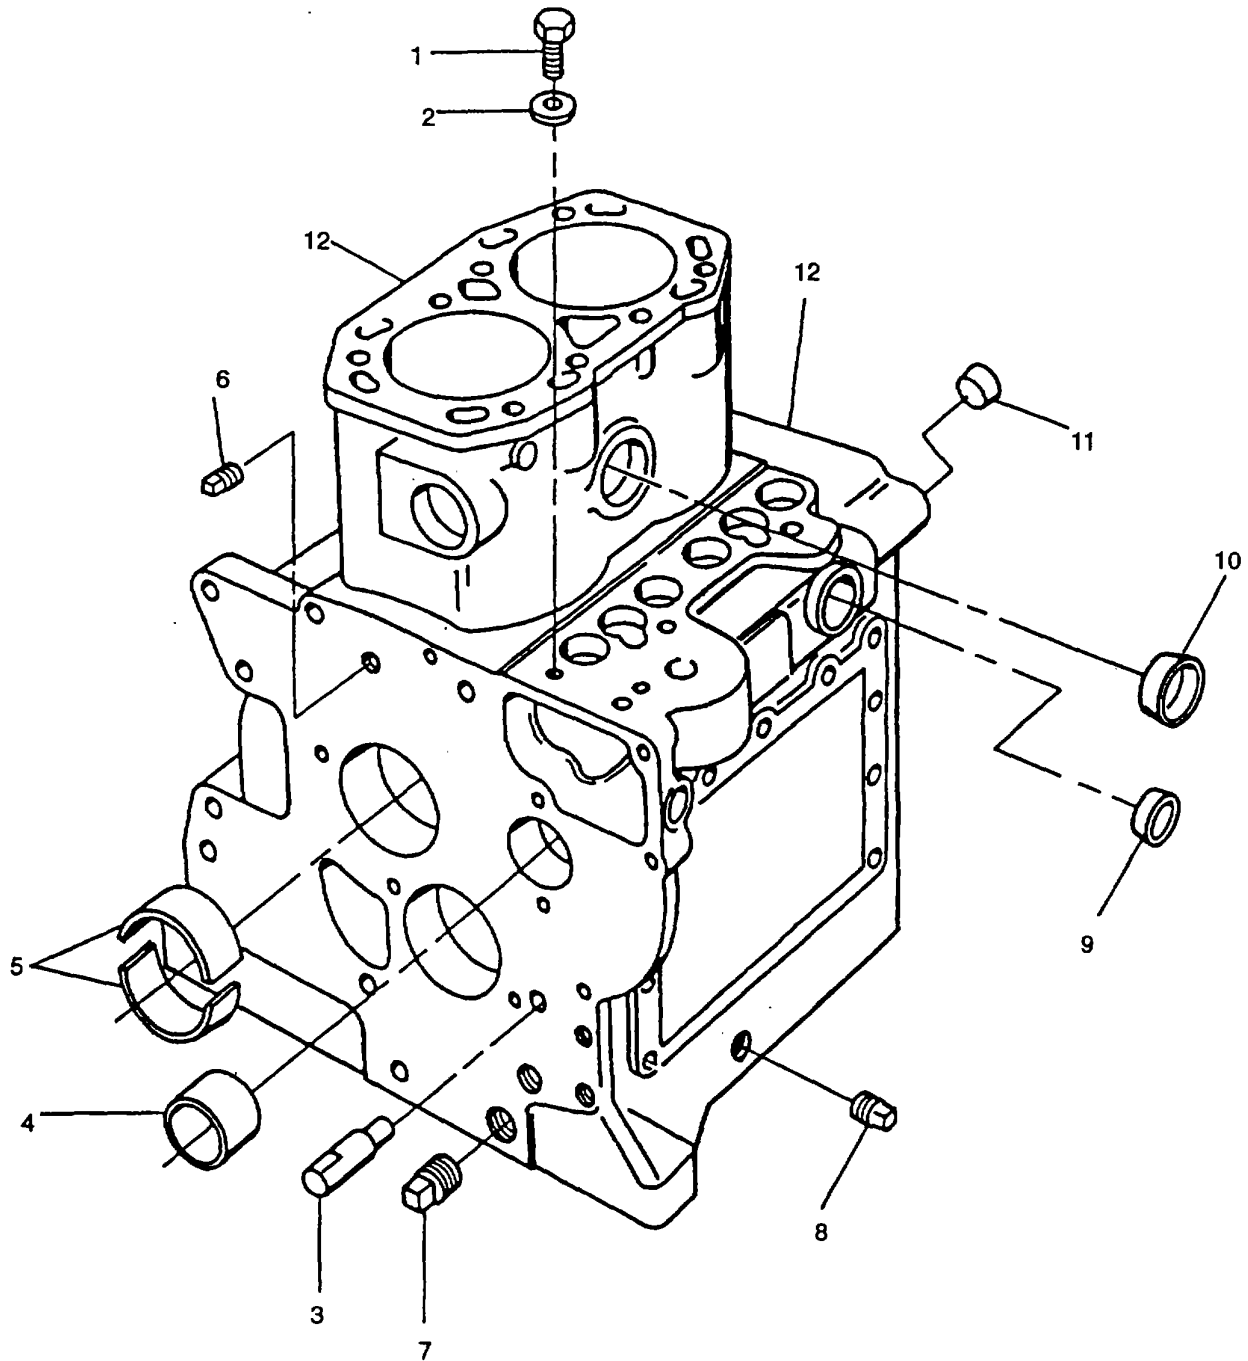

FIGURE 3-43. Crankcase Assembly
- a. If damaged, remove two capscrews (1, FIGURE 3-43) and copper washers (2).
- b. If damaged, remove two pivot supports (3).
- c. Using camshaft bushing tool (317-50106), remove camshaft bushing (4) as follows:
- (1) Install guide into bushing (4) from inside crankcase.
- (2) Install slide hammer onto guide threads.
- (3) Use slide hammer to remove bushing (4).
- d. Using main bearing tool (317-50111), remove crankshaft main bearing (5) as follows:
- (2) Install bolt and dolly into bearing (5, FIGURE 3-43) from oil seal side (crankcase outside face).
- (3) Install bridge over bolt threads until two legs are against crankcase.
- (4) Install spacer onto bolt.
- (5) Use a suitable wrench to tighten nut until bearing shells are withdrawn.
- (2) Place new bearing shells (5, FIGURE 3-43) into collar ensuring that one oil feed hole is in line with pilot pin and end of shell is in line with mark on collar face.
- (3) Place driver onto collar with cutout on driver located over collar pilot pin.
- (4) Push driver sufficiently until bearings come out other side of collar to provide a lead in.
- (5) Install assembly into crankcase from gear end with pilot pin in line with the oil feed hole in crankcase.
- (6) Place bolt through assembly.
- (7) Install bridge, spacer, and nut onto bolt.
- (8) Tighten nut until driver is against face of collar.
- (9) Remove tool.
- (10) that oil hole in bearing shell (5) is correctly aligned with oil feed hole in crankcase.
- h. Using camshaft bushing tool (317-50106), install camshaft bushing (4) as follows:
- (5) Use slide hammer to install bushing.
- i. If necessary, install two pivot supports (3).
- j. If necessary, install two capscrews (1) and copper washers (2).
- a. Clean block (12, FIGURE 3-43) thoroughly using dry cleaning solvent (P-D-680), pressure steam, or a hot tank.